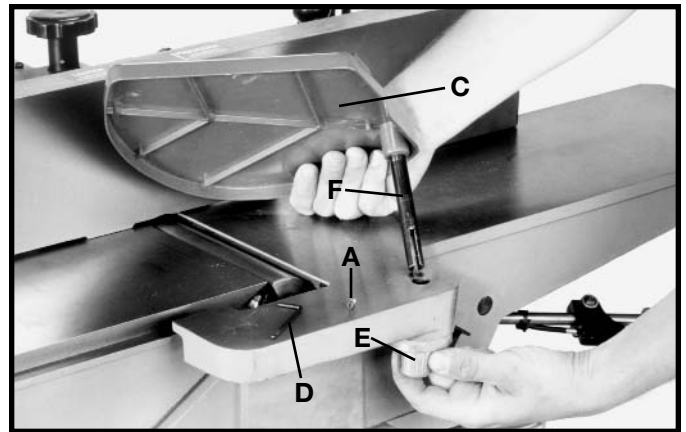
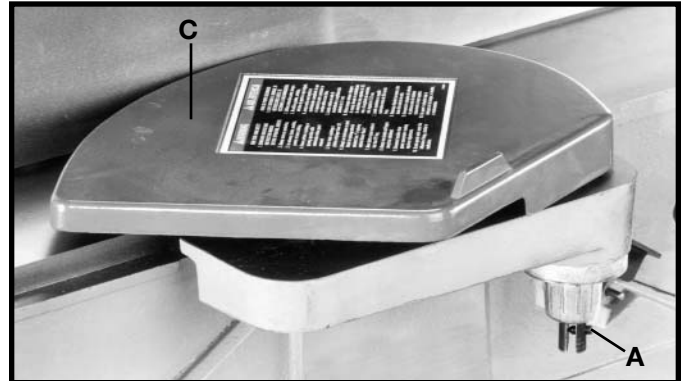

Fig. 20
Fig. 21
1. Remove set screw (A) Fig. 20 from cutterhead guard post (F) with the 2.5mm hex wrench. Insert post (F) through hole in the infeed table. **NOTE:** A spring is supplied in knob assembly (E) that returns the guard (C) over the cutterhead after a cut has been made. Turn knob (E) counter-clockwise to provide tension on the spring before inserting post (F). Make certain the spring engages in the slot of the post. If spring tension is too tight or too loose, adjust the spring accordingly by removing the guard and rotating knob (E).
2. Thread set screw (A) Fig. 21 back into post (F) Fig. 20, to keep cutterhead guard (C) in position during jointer operation.
3. Fig. 21, illustrates the cutterhead guard (C) assembled to the infeed table.